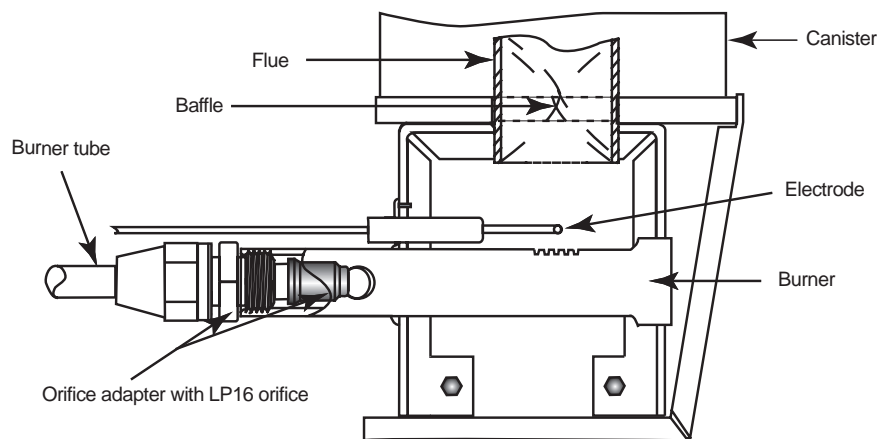

Figure 18. Burner and Components.
Step 6 through Step 8, refer to Figure 18, page 33